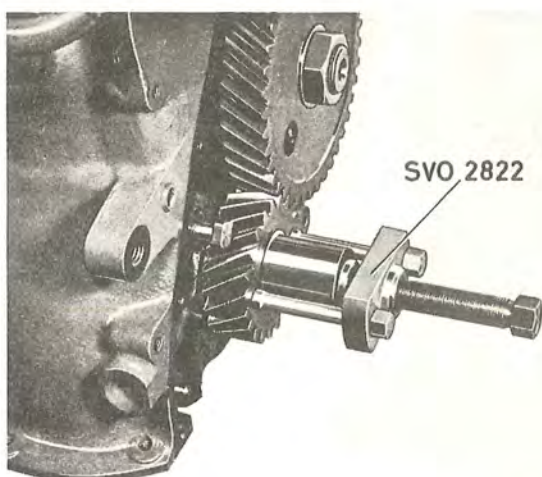

Fig. 2-35. Removing the crankshaft gear
5. Pull off the crankshaft gear with puller SVO 2822, see Fig. 2-35.